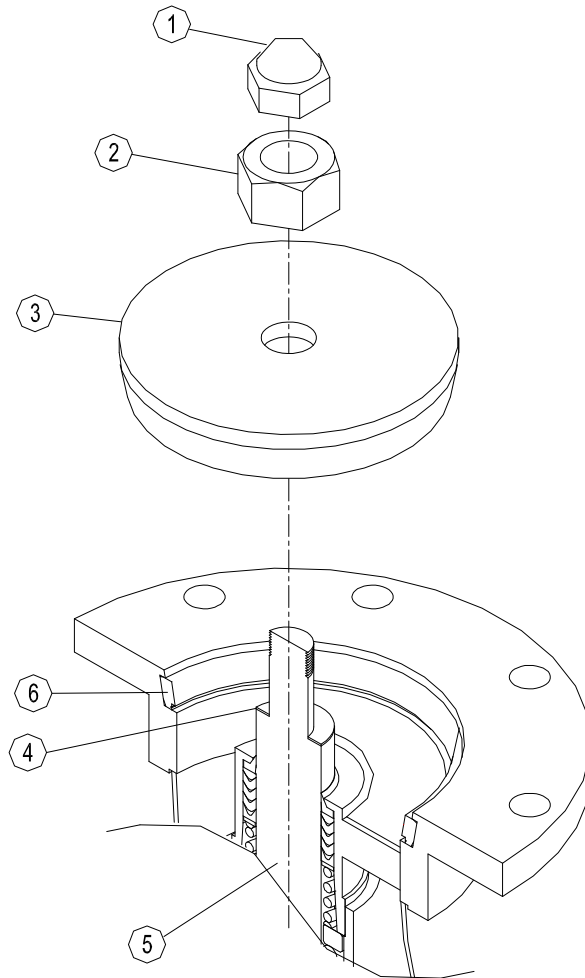

Figure 2
TO REPLACE DISC AND/OR SEAT: (See Figure 2) Hold cap collar (2) and remove cap nut (1). The disc (3) can be removed. Care should be taken not to damage or lose Teflon washer (4). Seat (6) can now be removed and a new seat snapped into the groove.